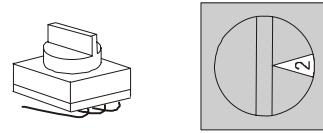
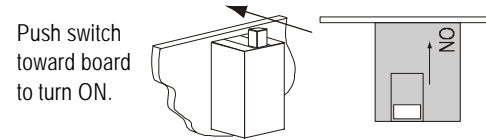
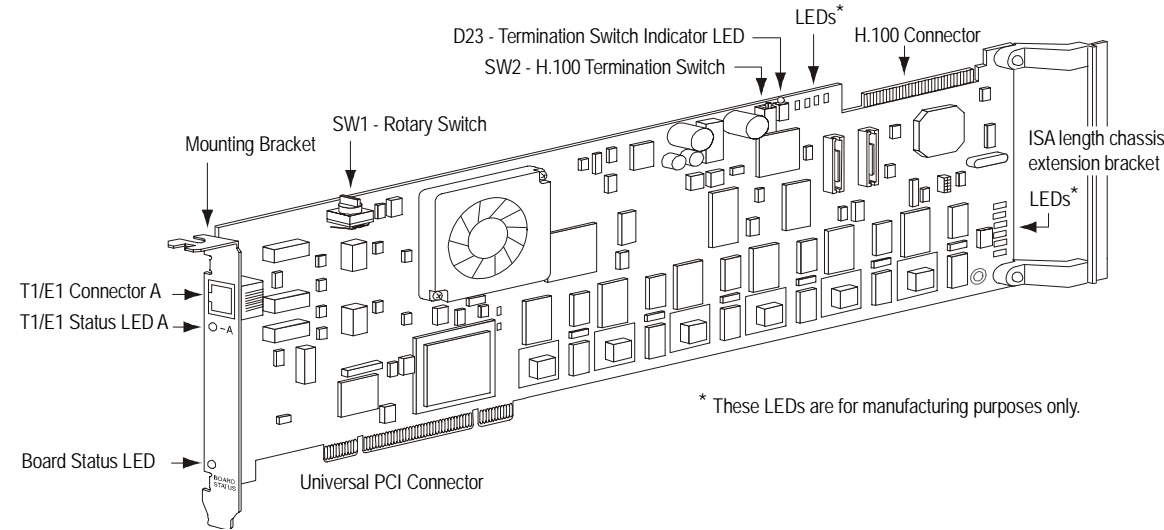

Figure 1 Rotary Switch - SW1
Figure 3 SW2 - H.100 Clock Termination Switch
Figure 4 Dialogic® Brooktrout® TR1034 Digital/Ethernet PCI Fax Board
You must set each TR1034 Fax Board to a unique module number to identify the resources associated with a specific board in a multi-board system. SW1 (Figure 1) is a rotary switch (see location in Figure 4). Use it to set the module number for each TR1034 Fax Board. The available settings are 2 - F (0 and 1 are reserved).
On a single TR1034 or on multiple TR1034 Fax Boards installed in the same chassis, leave SW2 in the OFF position. See Figure 4 for its location. Multiple TR1034 Fax Boards in the same system do not require the use of a connecting H.100 cable.
SW2 (see Figure 3) controls termination for the H.100 clock signals. Set the switch to ON to terminate the H.100 clock on a TR1034 Fax Board (see Figure 4 for the location of the switch on the board). The SW2 LED lights when SW2 is set to the ON position.
The TR1034 Fax Board comes with an extension bracket that allows it to fit snugly into an ISA form-factor chassis. If you have a PCI form-factor chassis, use a Phillips-head screwdriver to remove the extender bracket (see Figure 4).
5. Screw the board's mounting bracket securely to the computer's frame. See Figure 4.
The board status LED (see Figure 4) continuously flashes yellow when you turn the computer on.